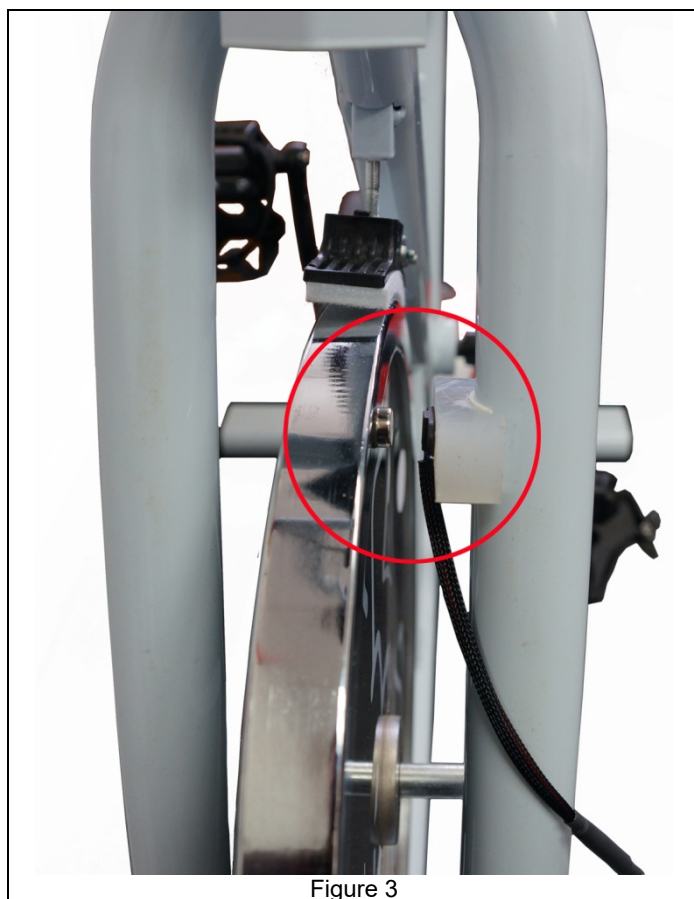

Figure 4
- The magnet is placed on the inner side of the crank arm, held in place by the tape as well as magnet's attraction to the iron in pedal's shaft (Figure 4).